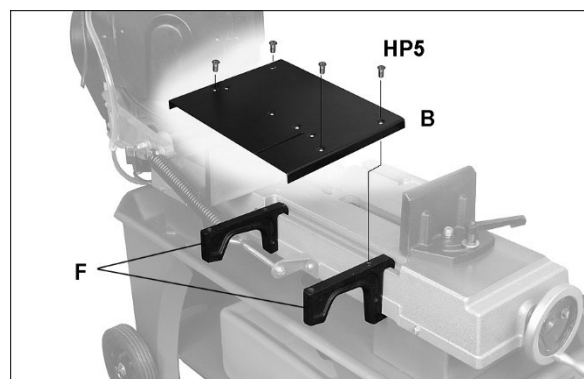

Figure 6-9: installing infeed table (712D only)
8. The table plate (B, Figure 6-9) may be used as cutting table in vertical mode (models 712 and 712D), or may be used as infeed table in horizontal mode (**712D only**). To use as infeed table for model 712D, place supports (F) on channel of saw bed as shown, and install plate with flat head screws (HP5).